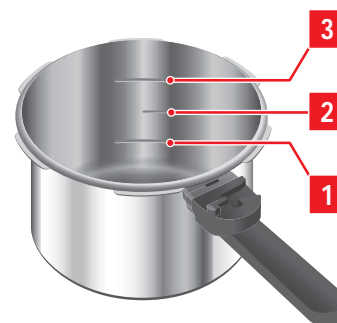

Abb. 9: Observing the filling level
3. Fill at least 1/3 of the pot with water (see fig. 9/1). Depending on the recipe, stock can also be used as the cooking liquid.
5. Add the food to the pot. Make sure that the pot is no more than 2/3 full (see fig. 9/3).
- When cooking foods that generate a lot of foam or expand such as rice, dehydrated vegetables or legumes, the pot may only be filled up to the halfway mark (see fig. 9/2).